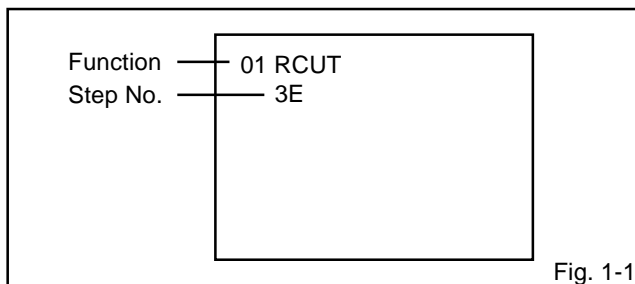

Fig. 1-1
Press the VOL. DOWN button on the set and the Channel button (9) on the remote control for more than 1 second to appear the adjustment mode on the screen as shown in **Fig. 1-1**.
4. Activate the adjustment mode display of **Fig. 1-1** and press the channel button (29) on the remote control to select "AGC".
5. Activate the adjustment mode display of **Fig. 1-1** and press the channel button (72) on the remote control to select "CUT OFF".
4. Activate the adjustment mode display of **Fig. 1-1** and press the channel button **(01)** on the remote control to select "RCUT".
3. Activate the adjustment mode display of **Fig. 1-1** and press the channel button **(19)** on the remote control to select "HPOSI".
3. Activate the adjustment mode display of **Fig. 1-1** and press the channel button **(26)** on the remote control to select "WIDS".
3. Activate the adjustment mode display of **Fig. 1-1** and press the channel button **(22)** on the remote control to select "VLIN".
3. Activate the adjustment mode display of **Fig. 1-1** and press the channel button **(20)** on the remote control to select "VPOSI".